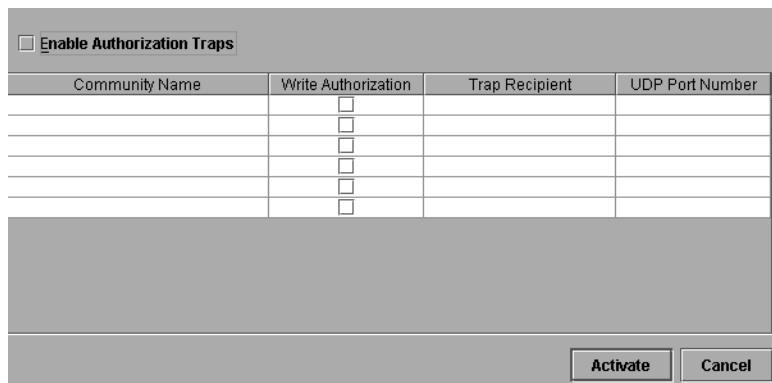

Figure 23: Configure SNMP dialog box—Enable Authorization Traps
- To enable transmission of trap messages to configured SNMP management workstations, click **Enable Authorization Traps**. A check mark displays in the box when transmission is enabled (Figure 23).